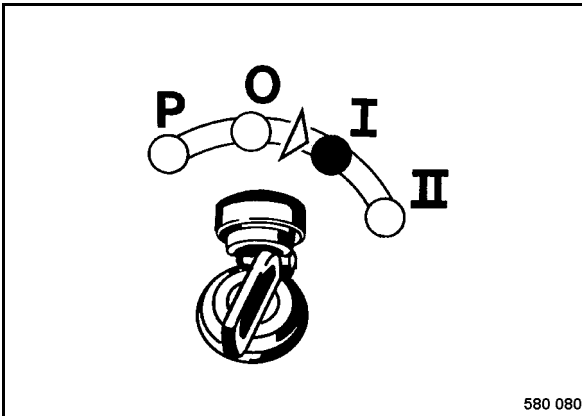

Fig. 30
- Turn the ignition key (Fig. 30) to position "I".